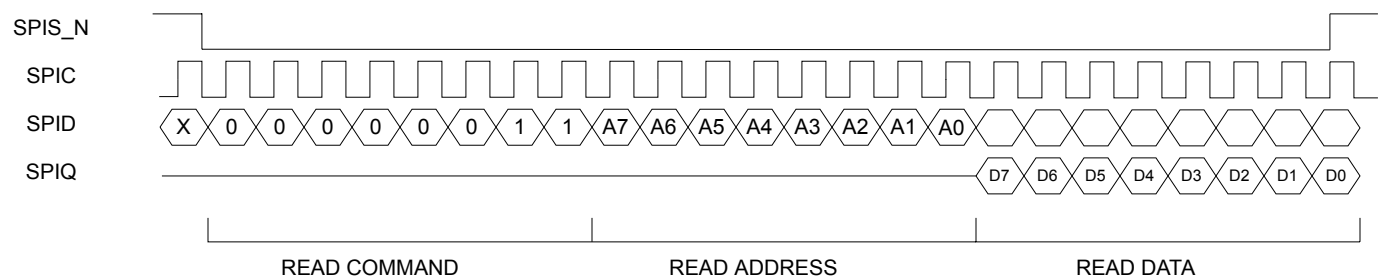
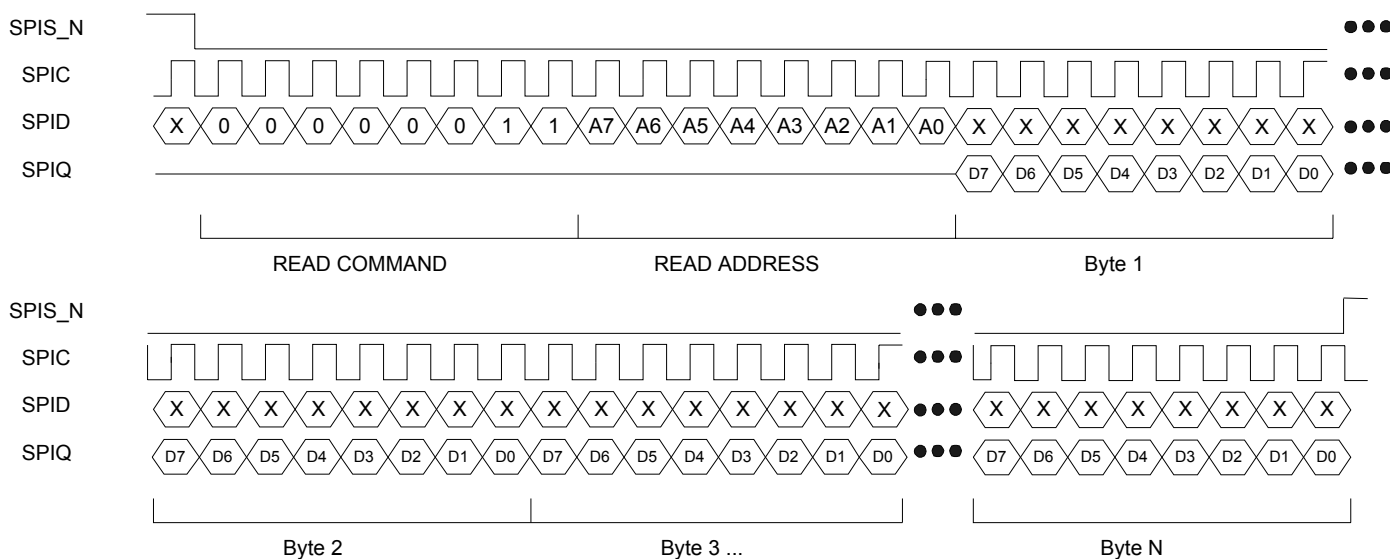

Figure 10. SPI Read Data Cycle
Figure 12. SPI Multiple Read
5. Registers can be read and configuration can be verified with a typical SPI read data cycle as shown in Figure 10 or a multiple read as shown in Figure 12. Note that read data is registered out of SPIQ on the falling edge of SPIC.